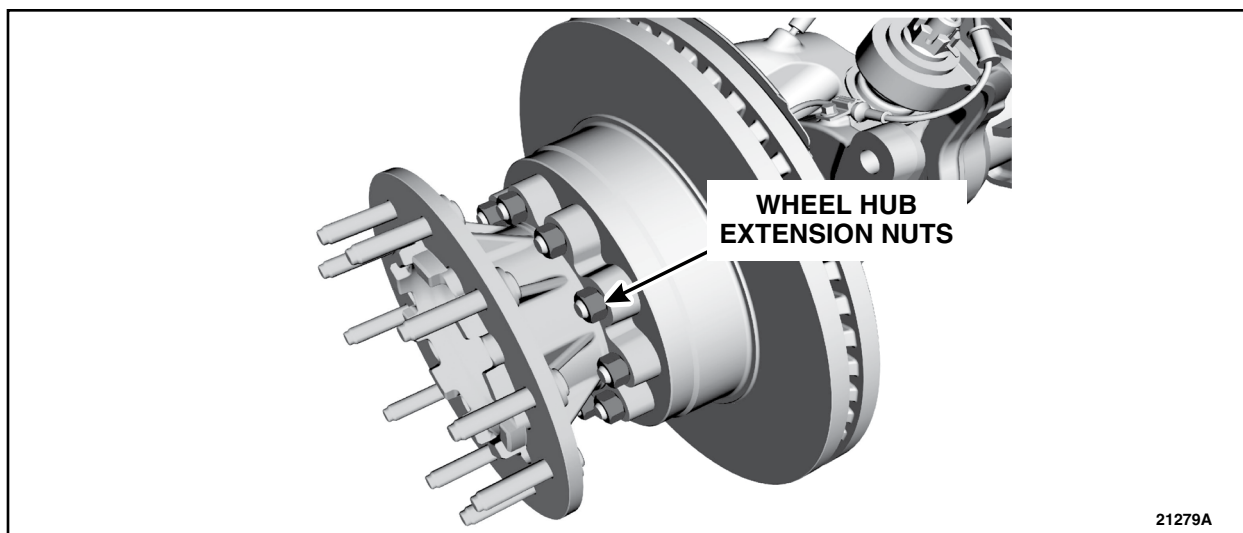

FIGURE 1
2. Remove both front Left Hand (LH) and Right Hand (RH) wheel and tire assemblies. Please follow the WSM procedures in Section 204-04A.
3. Torque the wheel hub extension nuts. See Figure 1.